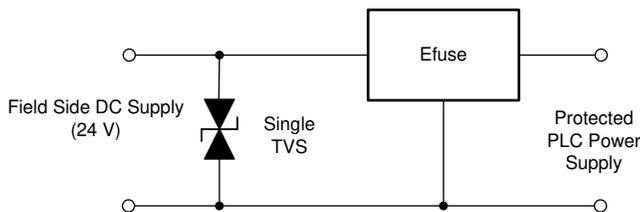

Figure 2-1. EFuse Integrated Solution
The eFuse-based surge protection solution is shown in Figure 2-1. It requires only a single TVS diode to protect the PLC from surges. The device does not need any passive wave shaping circuits to reduce slew rate of the surge. It can handle slew rates as fast as 20 V/ μ s. Built-in back-to-back FETs and reverse polarity protection circuits effectively block negative voltage that can be generated due to a negative surge.
- Updated Figure 2-13